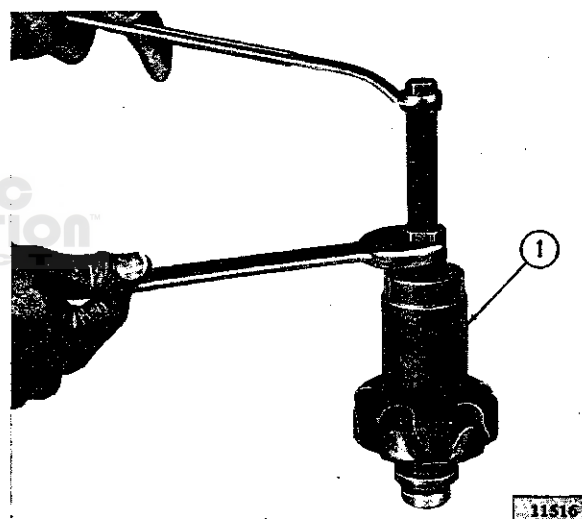

FIG. H-32—REMOVING FRONT BEARING
i. Remove the front and rear bearings from the rotor shaft by using Bearing Remover C-4068 for the front bearing, as shown in Fig. H-32, and Bearing Remover C-3936 for the rear bearing, as shown in Fig. H-33.